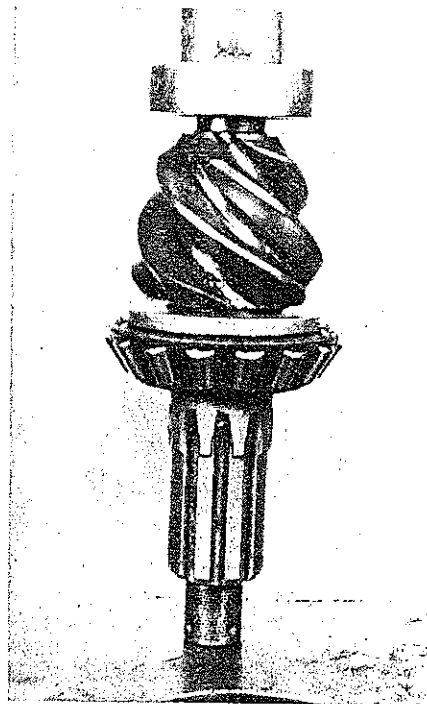

Fig. 169 Pressing pinion shaft radial bearing
1. Press rear thrust and radial bearings, Fig. 169, firmly and squarely against the pinion shoulders with a suitable sleeve.